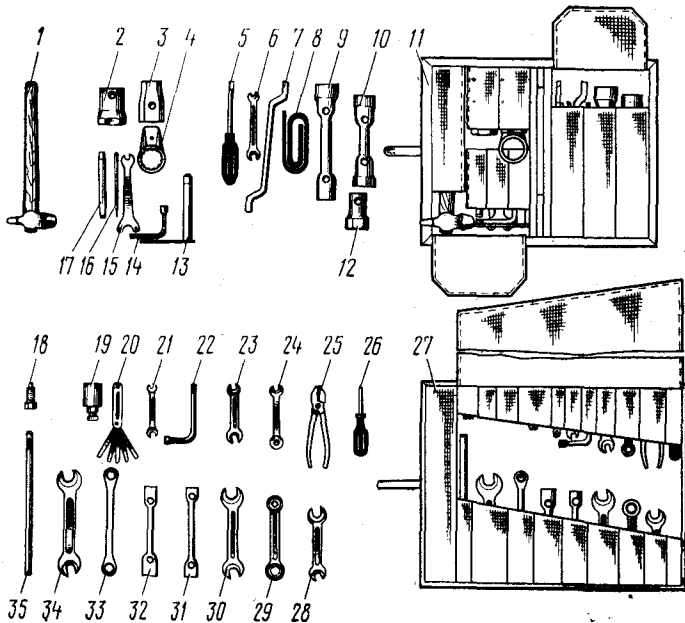
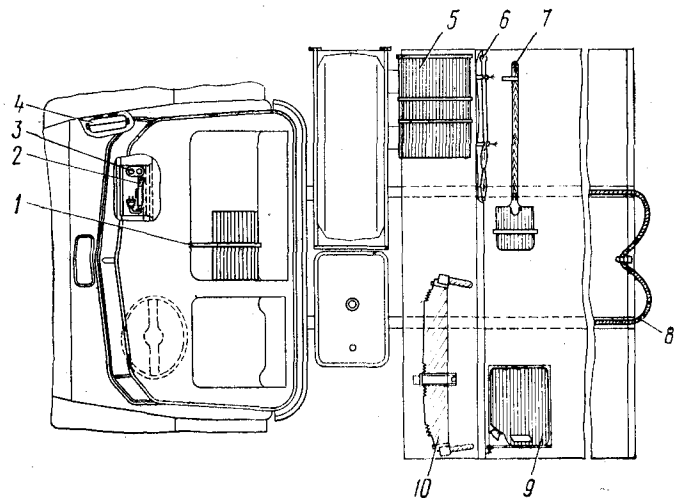

Fig. 155. Tools of Ural-4320-02 Truck
Fig. 157. Location of Tools and Accessories in Ural-4320-02 Truck:
When running the truck the layout of the tools and accessories, namely towing rope (item 8, Fig. 157) may be determined by the driver himself.
In tool box 5 (Fig. 157) under platform in large tool bag 11 (Fig. 155)
In tool box under platform in tool bag 27 (Fig. 155)
Fixed under platform (Fig. 157)
In luggage compartment (Fig. 157)
On cab front side panel (Fig. 157)
On platform (Fig. 157) (placed in jacket and fixed on front board)